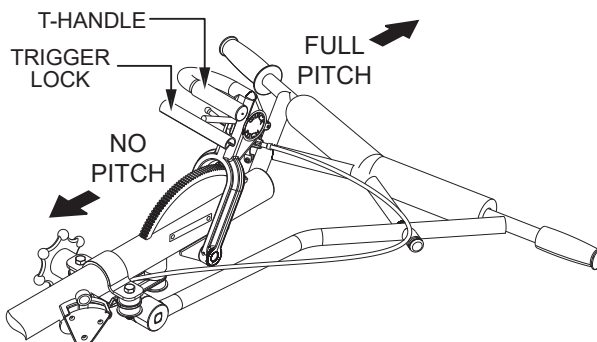

Figure 13. Blade Pitch Cable Adjustment (Quick Pitch™ Handle)
2. For trowels equipped with a **Quick Pitch™** handle (QXH), squeeze the trigger lock and push the T-handle towards the engine to release tension on the blade pitch cable. See Figure 13.